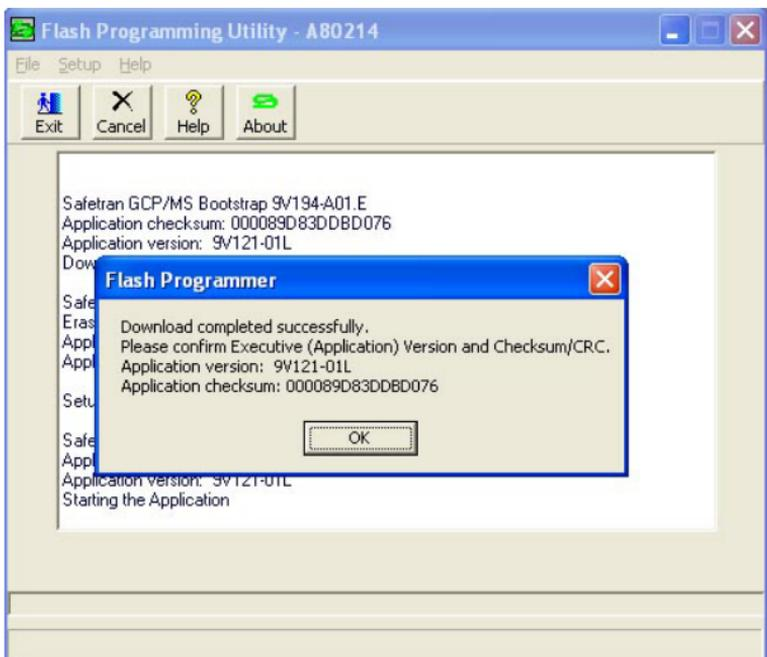

Figure 11:
6. Installation is complete when an install success dialog appears. The dialog box requests inspection to verify that the proper Executive (Application) Version with the proper Checksum/CRC has been successfully downloaded (See Figure 11).